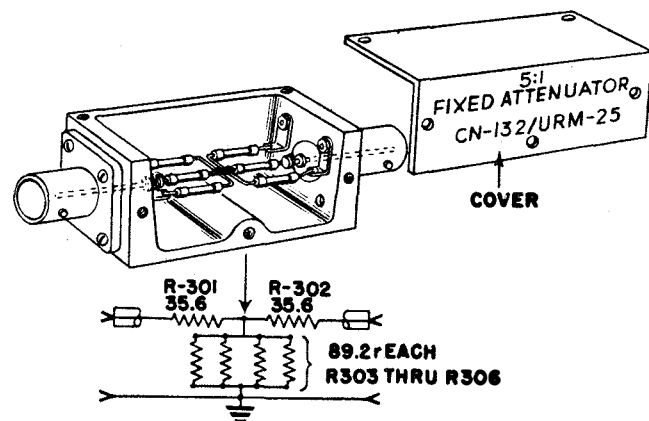

Figure 2-14. (5:1) Fixed Attenuator CN-132/URM-25 with Schematic Diagram Shown
(See figure 2-14).
b. The schematic diagram and outlined drawing of the 5:1 fixed attenuator is shown in figure 2-14. It is designed to be used when the input impedance of the receiver under test is 53.5 ohms and consists of four resistors (R-303, R-304, R-305, R-306) connected in parallel to give an equivalent resistance of 22.3 ohms. These parallel resistors are then connected with two 35.6